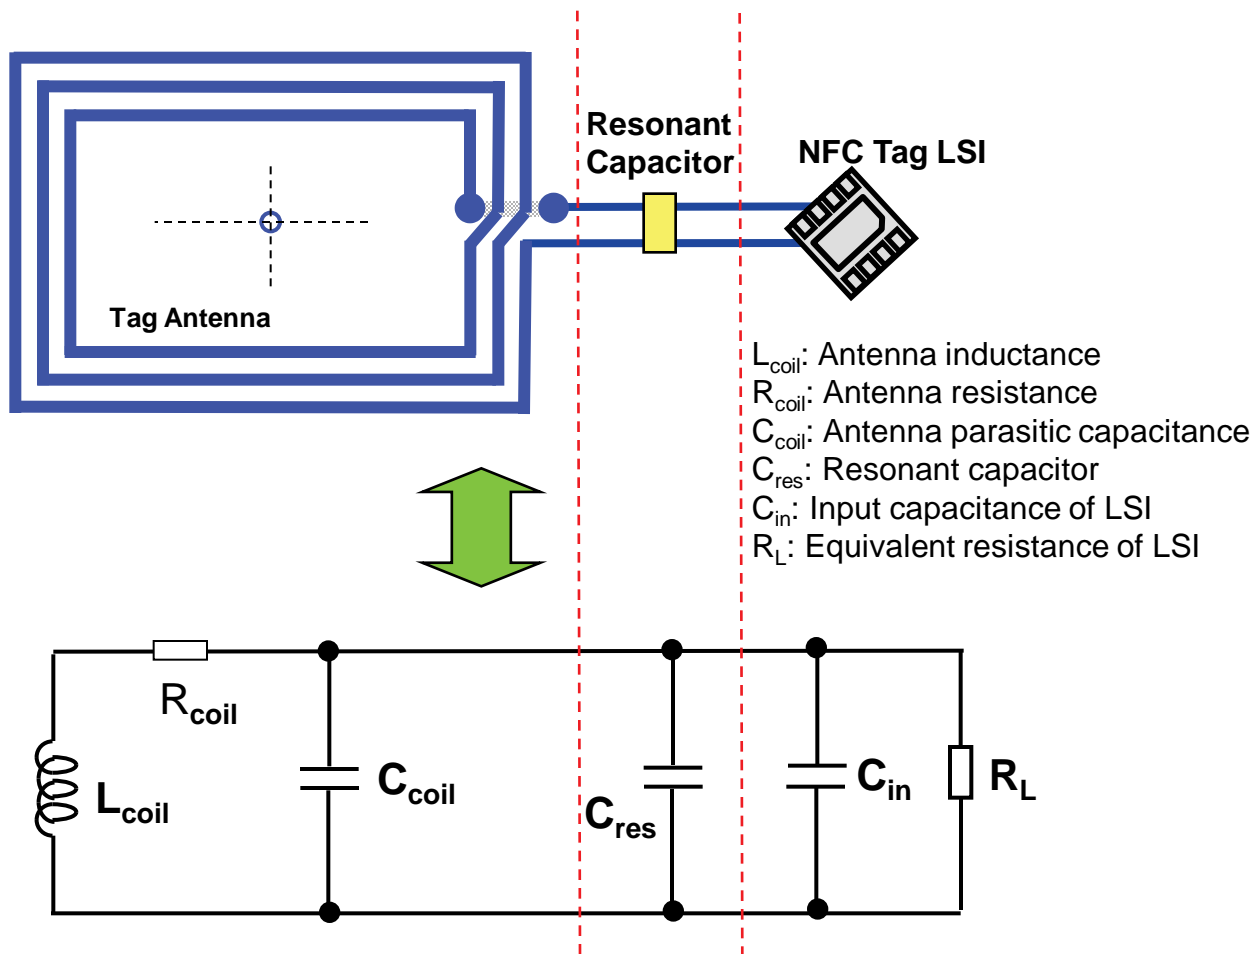

Figure 6 Equivalent Circuit of NFC Tag
Based on equation (1) derived from the NFC tag equivalent circuit shown in Figure 6, calculate the resonant capacitor value.
In the equivalent circuit of Figure 6, the resonant frequency (f_r) is given by equation (1).